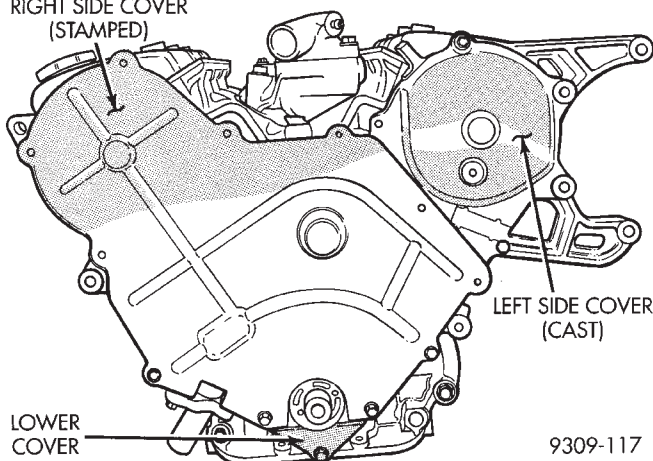

Fig. 1 Timing Belt Covers
(3) Remove the stamped steel cover (Fig. 1). Do not remove the sealer on the cover, it is reusable. If some sealer is missing use Mopar Silicone Rubber Adhesive Sealant or equivalent to replace the missing sealer.
(4) Remove the cast cover (Fig. 1).
(5) Remove the lower belt cover located behind the crankshaft pulley.
(6) To install reverse previous procedures.